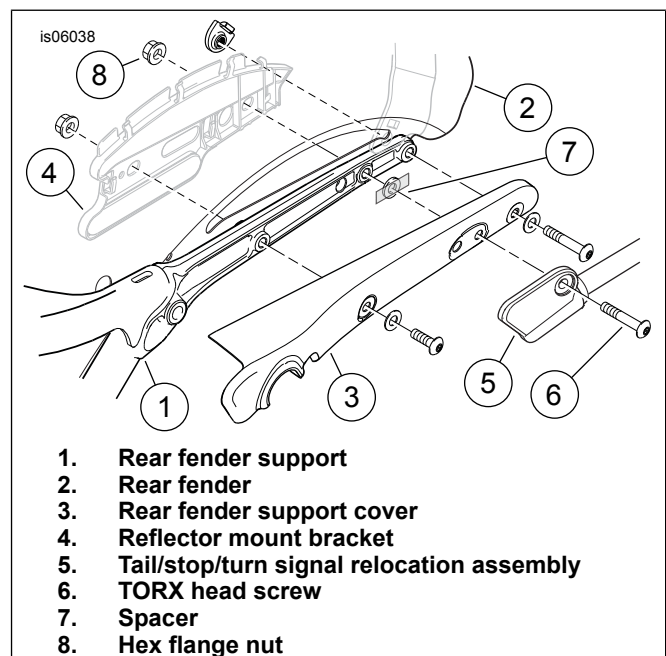

Figure 4. Rear Fender Assembly
6. See Figure 4. Get the rear fender support covers (3) removed earlier, the STT relocation assembly (5) from the previous section, and two 5/16-18 TORX[®] button head screws (6), spacers (7) and hex flange nuts (8) from the kit.